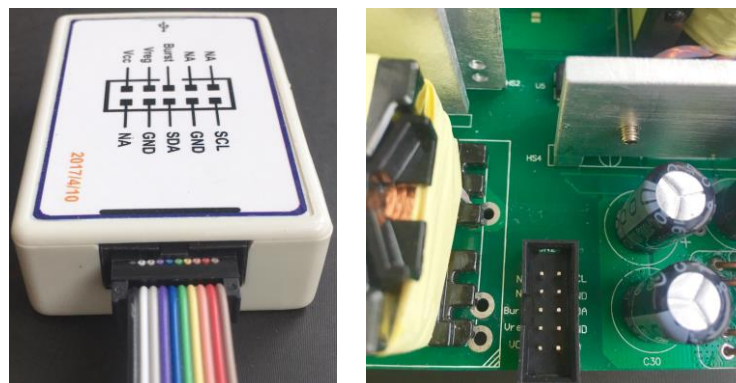

Figure 8: EVB to MPS I²C Dongle Wire Connection
3. Connect VCC, VREG, BURST, SCL, SDA, and GND (see Figure 8). If needed, refer to the datasheet for further clarification.